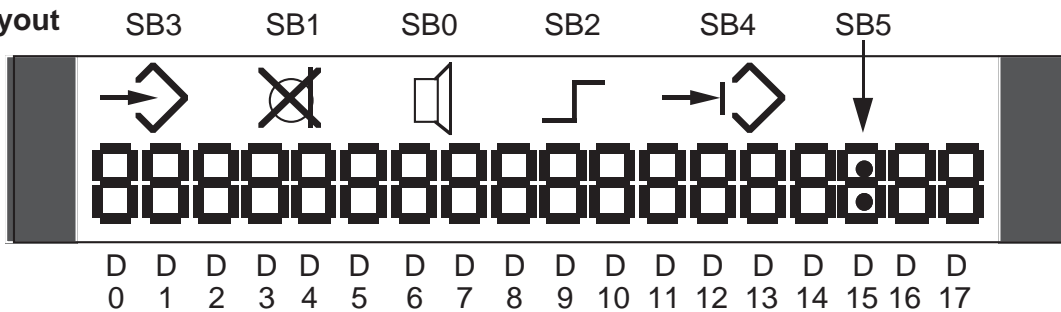

Figure 1
The display consists of 18 seven segment digits and 6 special symbols (see figure 1):
- SB0...SB5; 6 special symbols (one segment for each symbol only), see figure 1 for reference. If SB0 (loudspeaker on) or SB1 (microphone muted) are turned on, they blink with a frequency of 1 Hz.